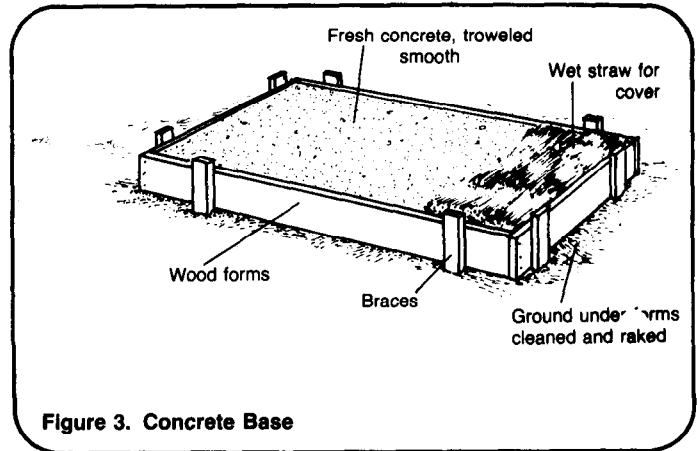

Figure 3. Concrete Base
2. Prepare the site shown on the location map by removing vegetation and rocks and raking the ground smooth. Build forms for the base. See Figure 3.
5. Cover the fresh concrete with wet straw, burlap bags, or equivalent and keep moist for three to seven days. See Figure 3.